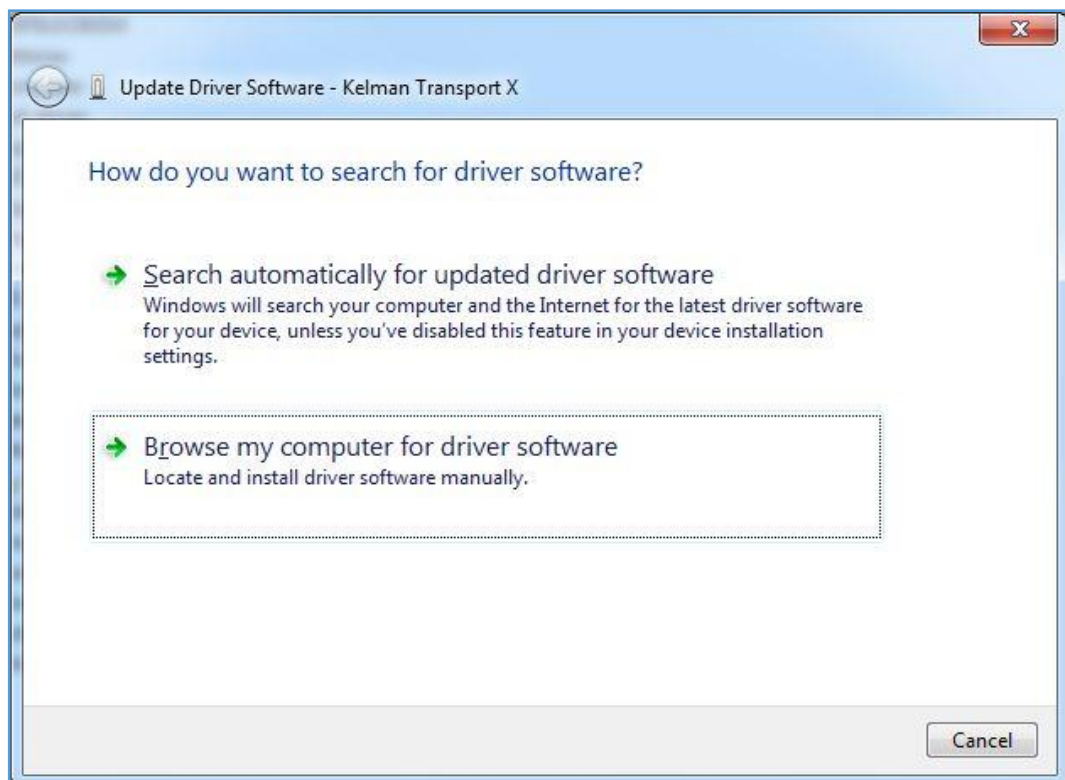

Figure A-11: Update Driver Software - Kelman Transport X
- On the next screen, select Browse my computer for driver software as shown in Figure A-11.